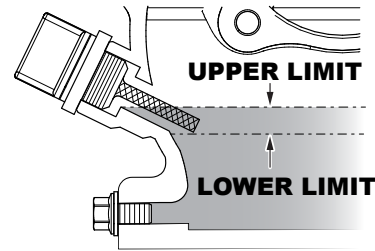

Figure 12. Engine Oil Dipstick (Oil Level)
4. If the oil level is low (Figure 12), fill to the edge of the oil filler hole with the recommended oil type (Table 5). Maximum oil capacity is 1.16 quarts (1.1 liters).